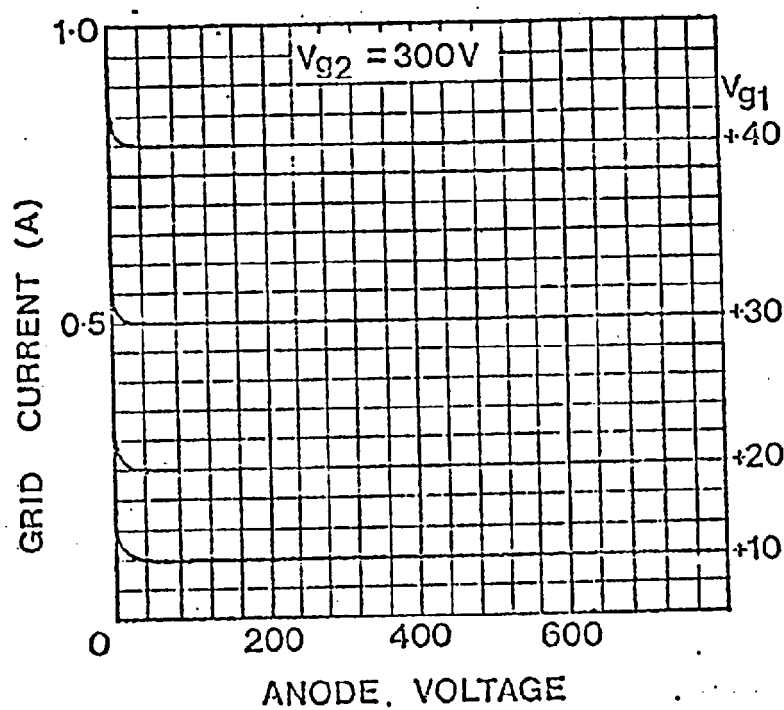

Fig. 7
- (3) See Figs. 7, 8 and 9 for curves of control grid current as a function of anode voltage for stated values of control grid and screen grid voltages.